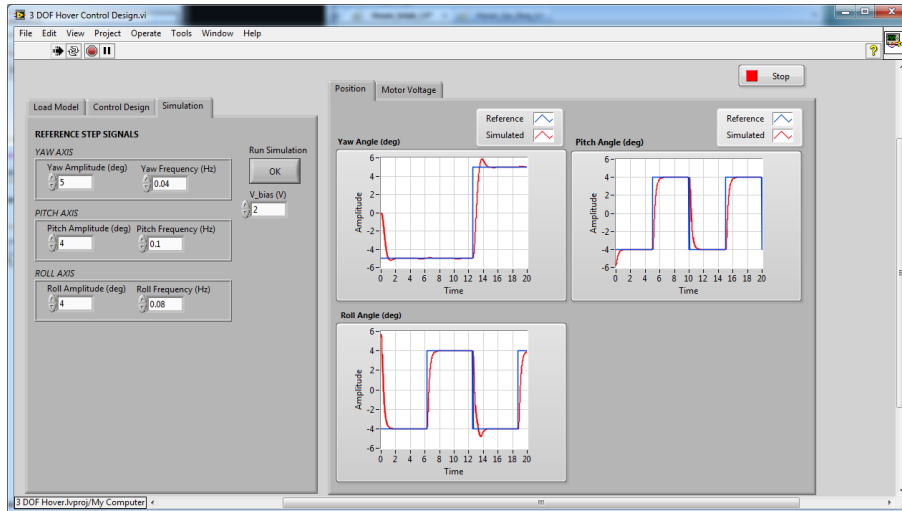

Figure 3.1: VI used to simulate 3 DOF Hover system
In this section we will use the LabVIEW VI shown in Figure 3.1 to simulate the closed-loop control of the Quanser 3 DOF Hover system. The system is simulated using the linear model summarized in Section 2.1. The VI model uses the state-feedback control described in Section 2.2. The feedback gain K is found using the LQR command (LQR is described briefly in Section 2.2.2). The goal is to make sure the generated gain can stabilize the system while not saturating the dc motors.
3. Open the VI called *3 DOF Hover Control Design.vi*, shown in Figure 3.1.
7. Open the *3 DOF Hover Control Design* VI, shown in Figure 3.1.